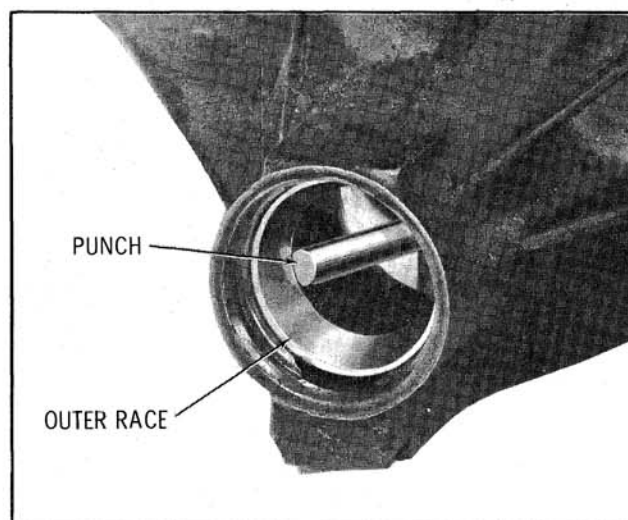

Fig. 10-20 Removing Pinion Front Bearing Outer Race
2. Pry pinion oil seal from carrier and remove front pinion bearing. If this bearing is to be replaced, remove outer race from carrier as shown in Fig. 10-20.